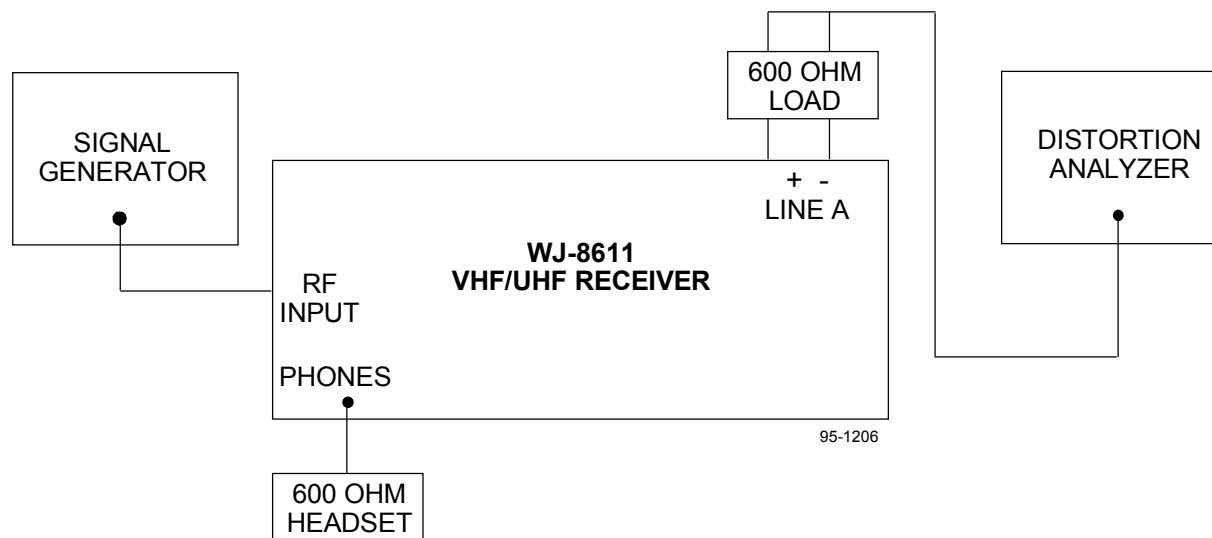

Figure 6-5. Audio Output Performance Test, Equipment Connection
- Connect the test equipment as illustrated in **Figure 6-5**.